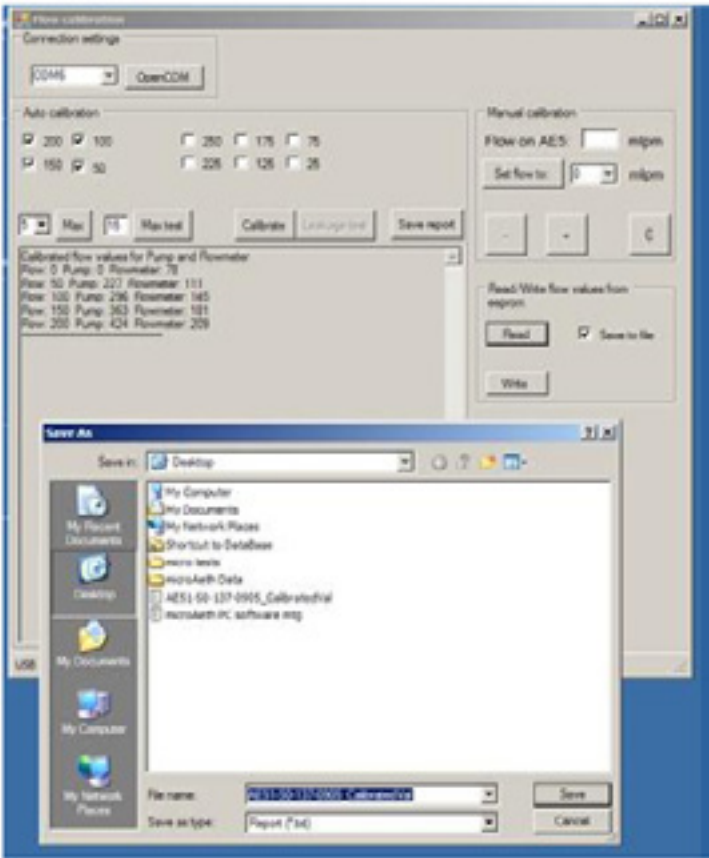

Figure 18: microAeth Flow Calibration Software – Main Screen with Save File Dialog window
- f. A dialog box opens and allows you to save the flow calibration file to a file, UnitSerialNumber_Calibrationval.txt where UnitSerialNumber refers to the serial number of the connected instrument (Figure 18).